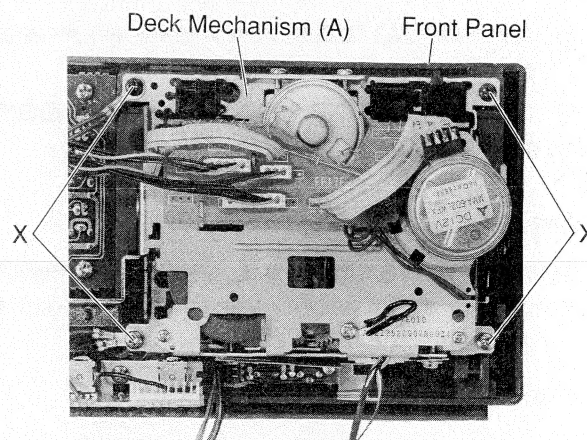

Figure 6
- (2) Remove four screws marked "X" as shown in Figure 6.
3. デッキメカ (A) の取り外し方